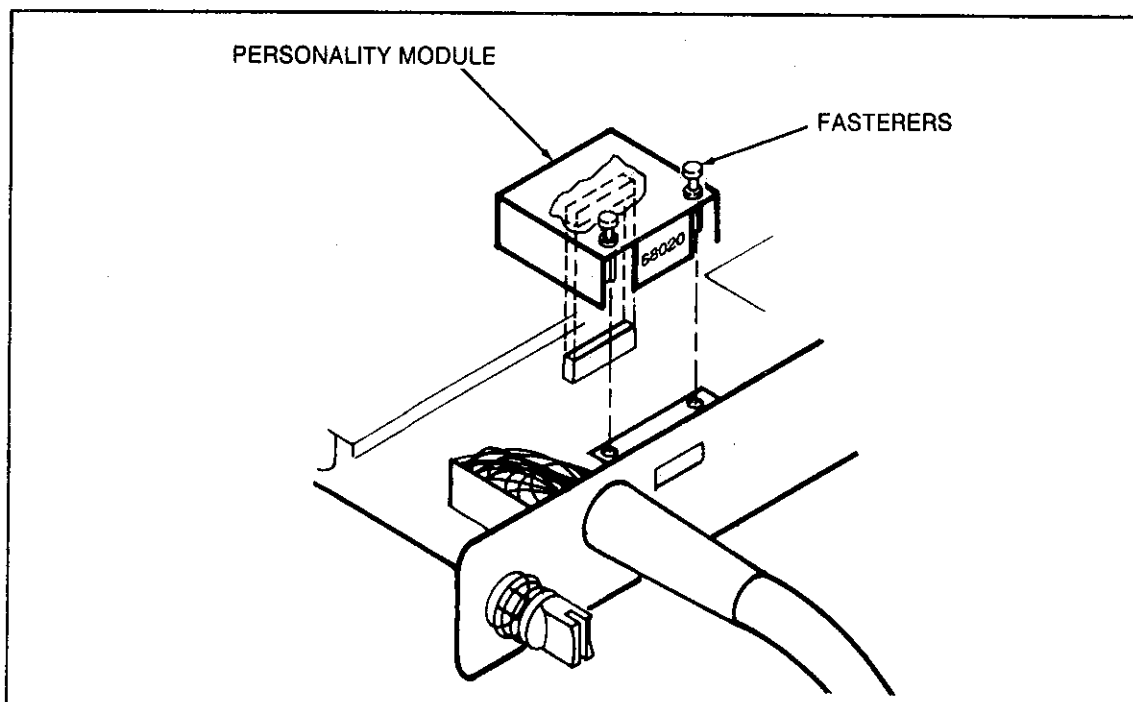

Figure 2-2. Installing the Personality Module
1. Carefully plug the personality module in the connector on the left-hand side of the main printed circuit assembly (pca) as shown in Figure 2-2.